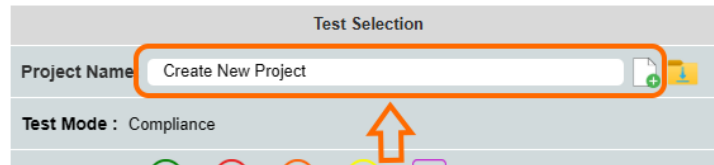

FIGURE 4.4: CREATE NEW PROJECT
5. Create a new Project by clicking on the Project Name entry field or Create New Project icon as shown in Figure 4.4 below.